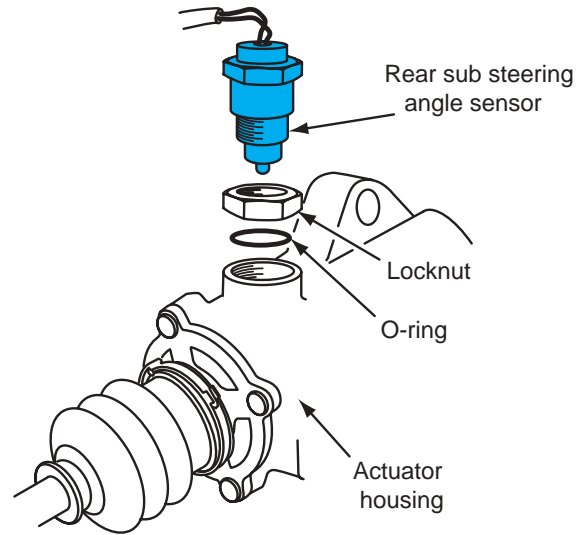

Figure 13-20 Removing the rear sub steering angle sensor.
1. Loosen the rear sub steering angle sensor locknut and rotate the sensor to thread it out of the housing (Figure 13-20). Discard the sensor O-ring.